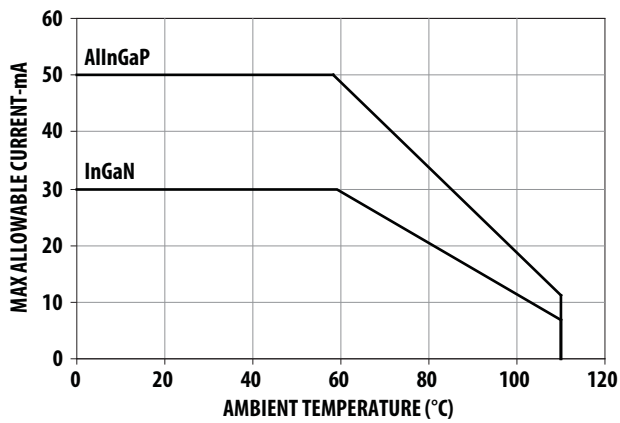
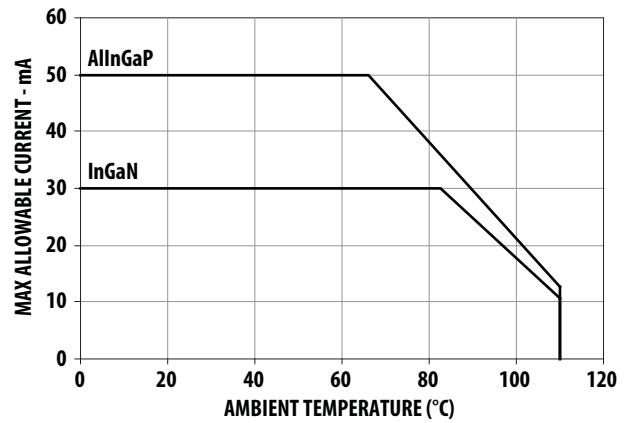

Figure 4a. Maximum forward current vs. ambient temperature. Derated based on $T_{JMAX} = 125^{\circ}C$. (3 chips)
Figure 4b. Maximum forward current vs. ambient temperature. Derated based on $T_{JMAX} = 125^{\circ}C$. (single chip)
1. Derate linearly as shown in Figure 4a & 4b.
4. Refer to Figure 4a and figure 4b for more information